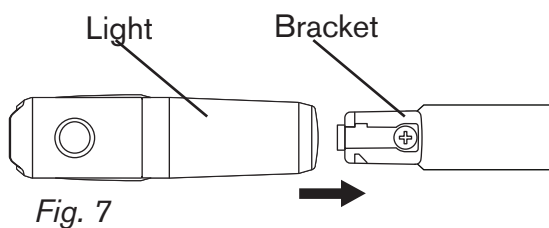

Fig. 7
- Once the lamp is installed, fit the lamp by simply sliding into the plastic housing (fig. 7) on the front of the bracket until the light 'clicks' into place